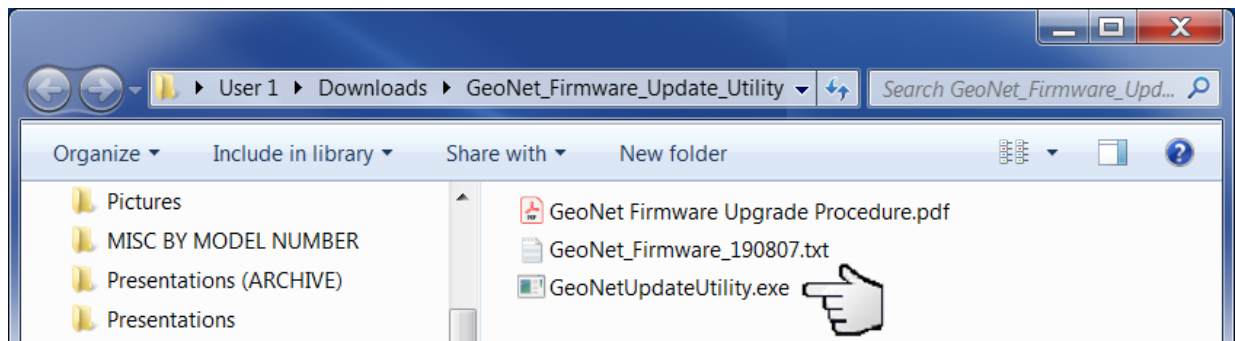

Figure 6 - Open the GeoNet Update Utility Application
7) Open “GeoNetUpdateUtility.exe” (Figure 6). If a security warning appears click “Run”.